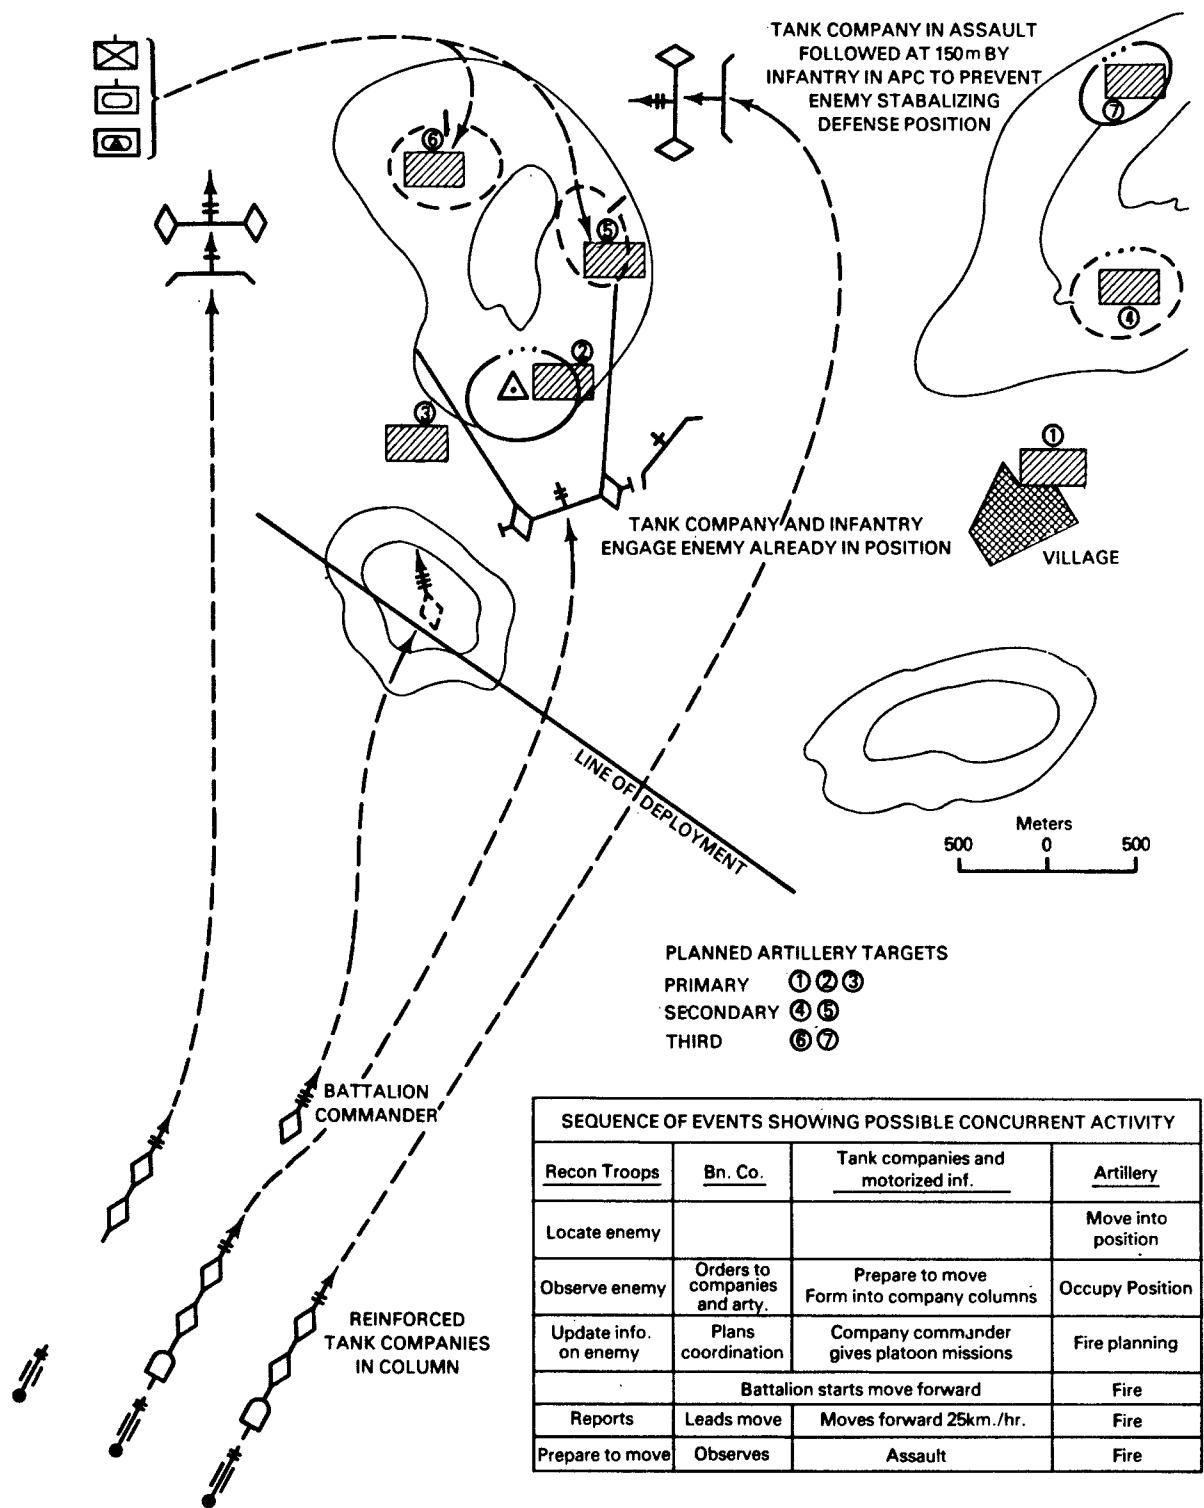

Figure 14. Breakthrough of the Hasty Defensive Position.
b. A tank company approaches the enemy defensive position in march or combat formation. During the approach, the company commander receives orders by radio from the battalion commander. These orders specify the line of deployment, the objective within the FEBA and the direction of further advance. The company commander evaluates the situation, and transmits orders to the platoons. When supported by motorized rifle units, the company commander defines their missions and assault positions. The assault is then carried out in same manner as that described in paragraph 13 (see Figure 14).